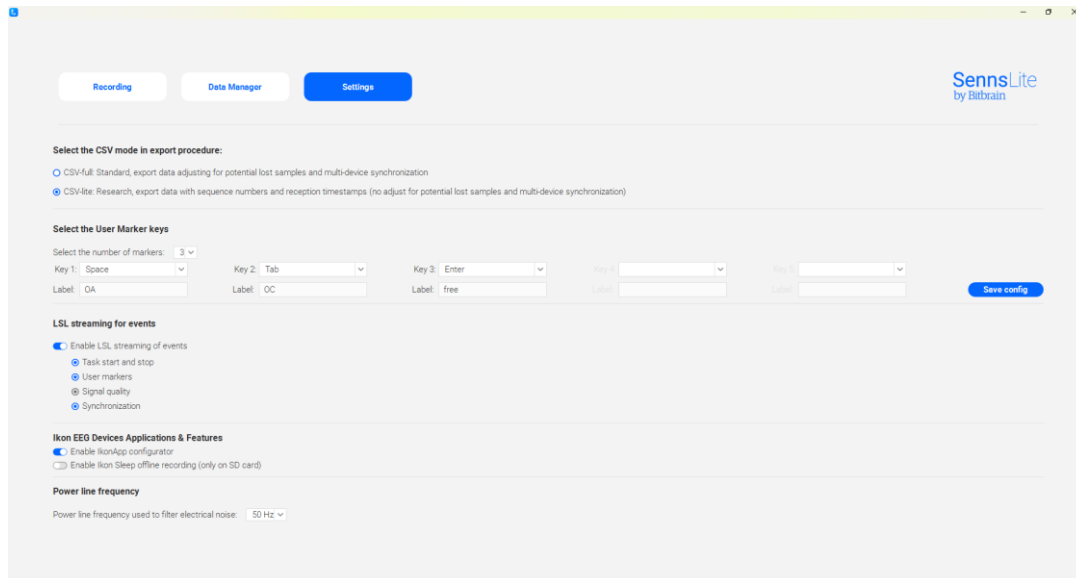

Figure 53. Settings Module to enable Ikon App Configurator
1. At the bottom of SennsLite Settings module (Figure 53), enable Ikon App Configurator.